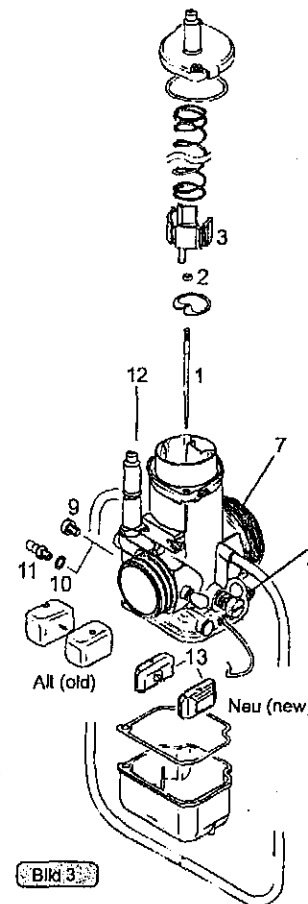

Bild 3
- The suction side carburetor flange (7) is furnished with a thread groove to increase the hold of the intake system (airfilter, intake silencer etc.). See fig. 3.
- The idle air regulating screw (8) is provided with a hexagon head (wrench 13 mm) instead of knurled head. See fig. 3.
- All new carburetors have a depression connection for the high altitude kit (HAC kit). See fig. 3.